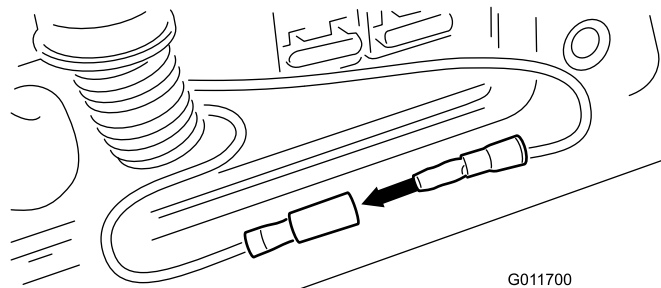

Figure 56
4. With the key in the OFF position, remove the cap from jumper wires and plug the wires together (Figure 56).